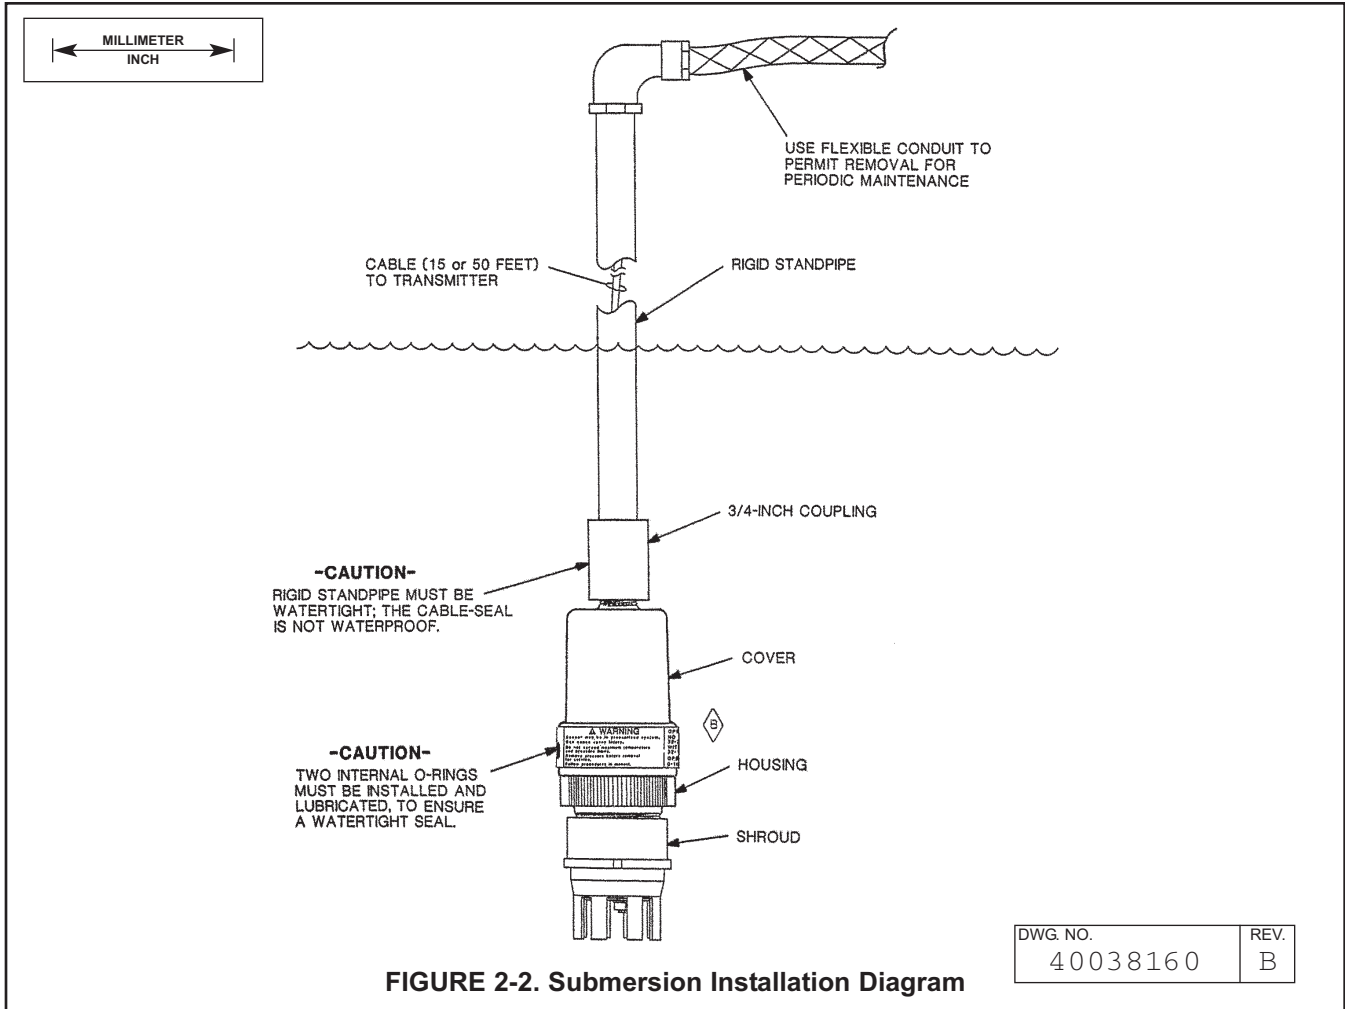

FIGURE 2-2. Submersion Installation Diagram
**2.2 SUBMERSION INSTALLATION (Code 02).** To install the sensor in process proceed as follows (see Figure 2-2):